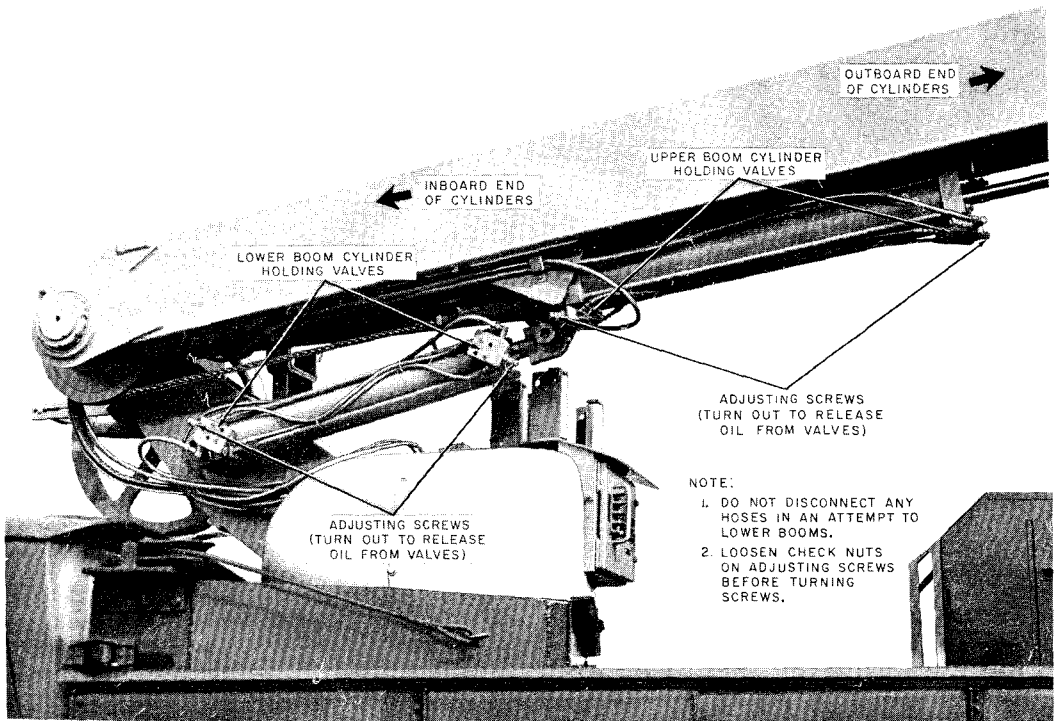

Fig. 11—Upper and Lower Boom Cylinders Showing Holding Valves
5.02 To fold the booms when there is a power failure, turn out the adjusting screw on the appropriate holding valve to release oil from the upper and lower boom cylinders as required. Fig. 11 shows the locations of the holding valves for the boom cylinders.